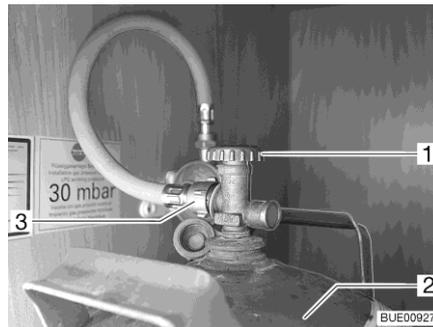

Fig. 174 Gas bottle compartment
- Close the regulator tap (Fig. 174,1) on the gas bottle (Fig. 174,2). Pay attention to the direction of the arrow.
- Unscrew the gas tube (Fig. 174,3) from the gas bottle.